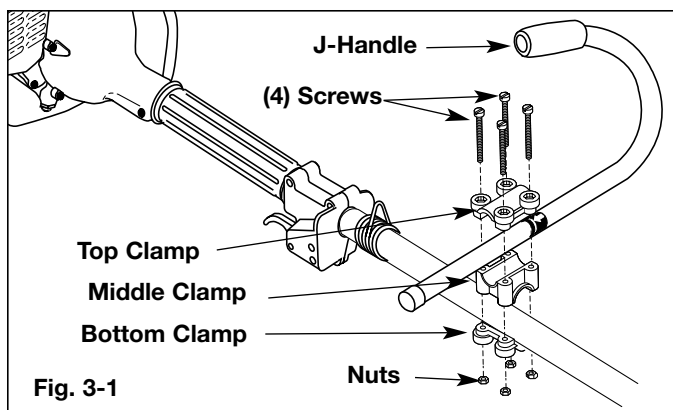

Fig. 3-1
2. Place the J-handle between the top and middle clamp pieces (Fig. 3-1).
3. While holding the three pieces together, install the four (4) screws through the top clamp and into middle clamp.